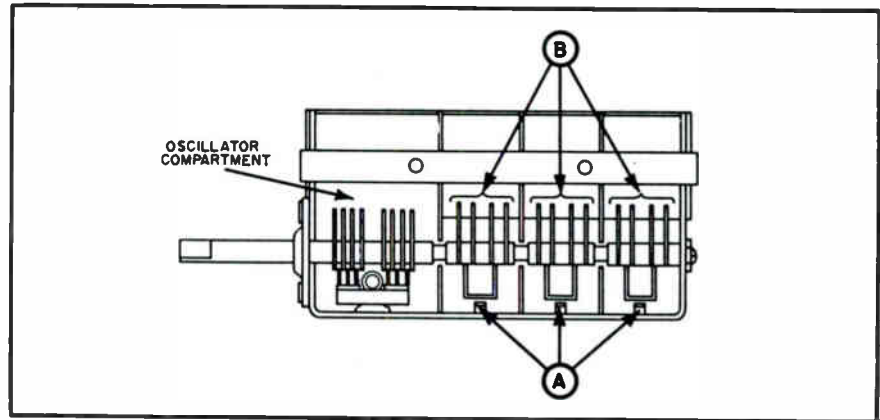

Figure A-2.
5. Adjust the trimmer capacitors, A in figure A-2, using an insulated align-
7. Using long nosed pliers (or a soldering aid) adjust the rotor plates, B in figure A-2. Bend only the outer, split, rotor plates, to obtain maximum reading on both meters. Bend only the plate ends that mesh at or near maximum capacity. The video output may be favored slightly over the sound output providing only a slight loss of sound occurs.